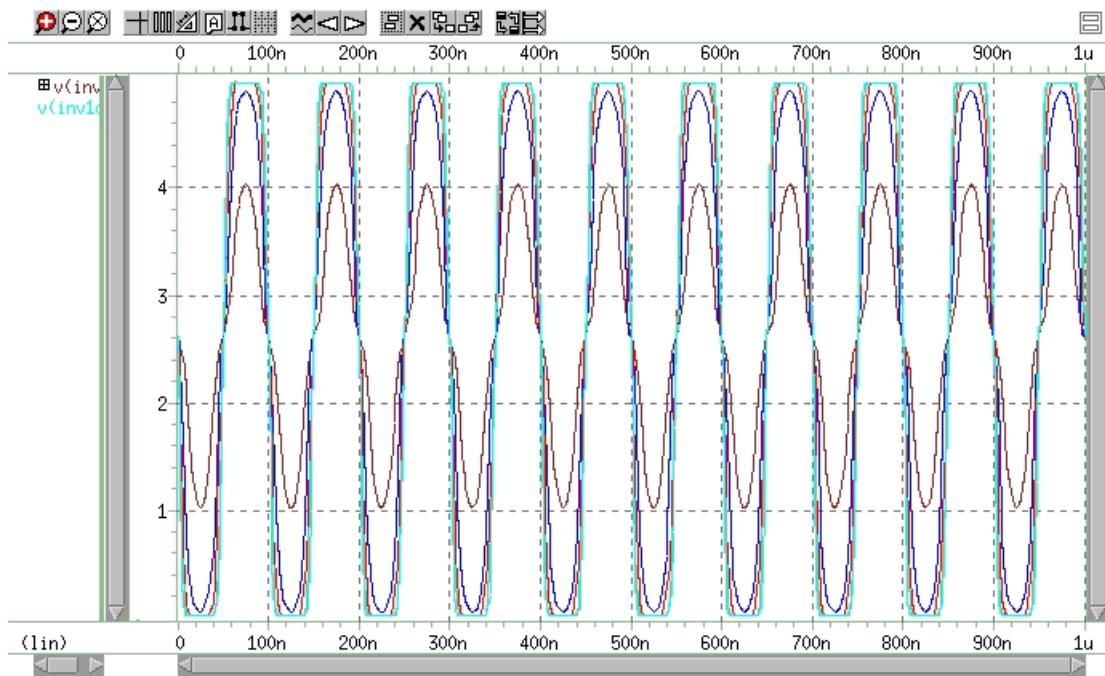
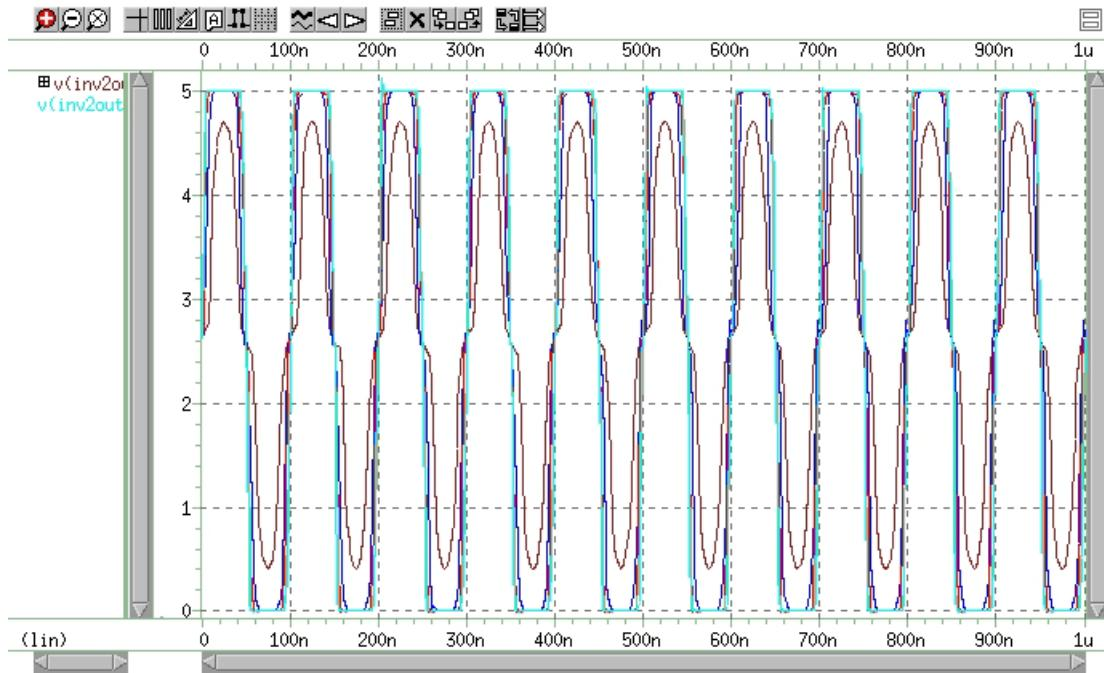

Figure 201 Plot of Voltage on Node *inv1out* vs. Time
Figure 202 Plot of Voltage on Node *inv2out* vs. Time
8. Repeat Step 6 and Step 7 to view the signals $v(inv1out)$ and $v(inv2out)$ (Figure 201 and Figure 202 on page 1021).